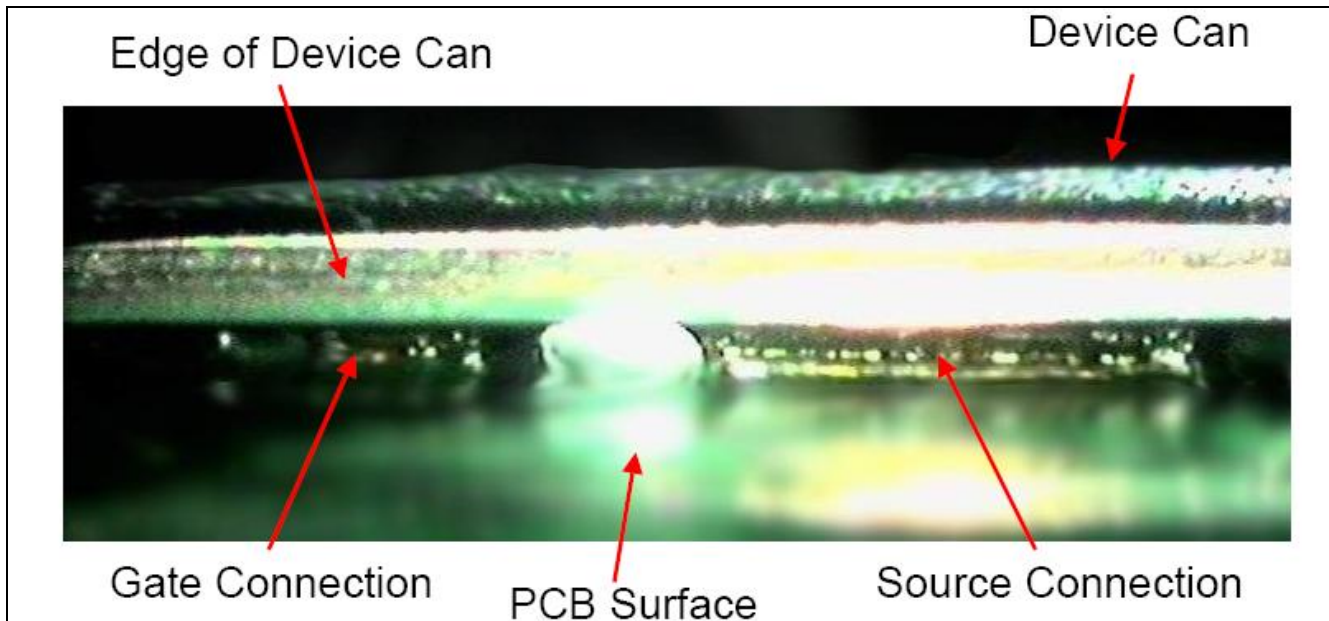

Figure 19: Optical photo of gate and source solder joints using an endoscopic system
Automatic X-ray Inspection (AXI) systems are appropriate for efficient inline control. AXI systems are available as 2D and 3D solutions. They usually consist of an X-ray camera and the hardware and software needed for inspection, controlling, analysing, and data transfer routines. These reliable systems enable the user to detect soldering defects such as poor soldering, bridging, voiding and missing parts. However, other defects such as broken solder joints are not easily detectable by X-ray. **Figure 19** shows examples of typical X-ray photos of CanPAK™ MX and SQ packages. Solder joints of drain connections appear as light grey rectangles (metal can touches the PCB pad and results in a very thin solder joint) framed with darker areas (solder joint meniscus). Solder joints of gate and source connections appear as dark areas with rounded corners. These rounded corners are a hint for the typical “hourglass” shape of these solder joints. The silicon die and Die-Attach (DA) material are visible at the edge of the die. As a rule-of-thumb, a 25% maximum voiding rate (X-ray inspection top-down view) is a starting point.